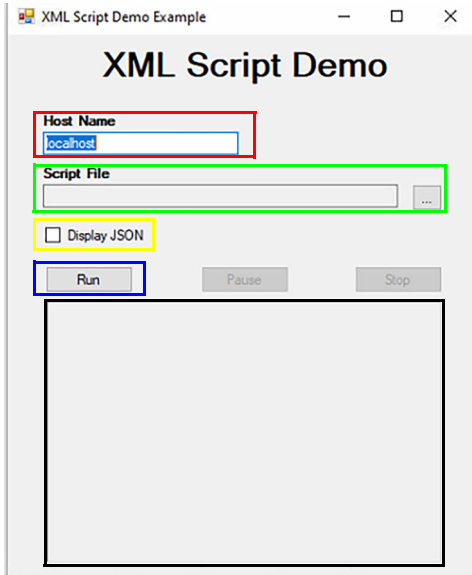
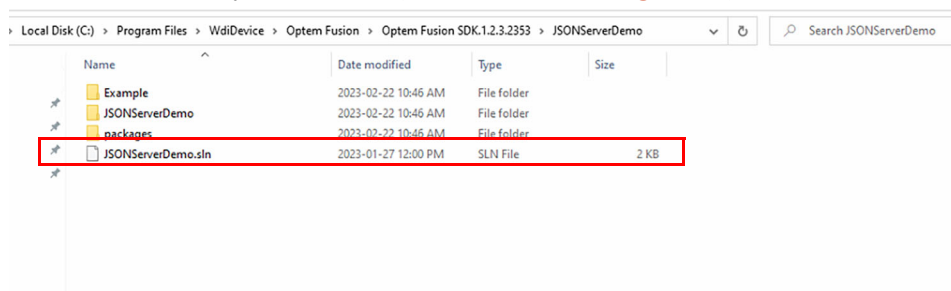

Figure 46 XML Script Demo Window
Figure 47 XML script file folder
- Once the tool is open, input the name of the host machine in the Host Name text box (outlined in red in Figure 46)
- Click the selection button to the right of the Script File text box (outlined in green in Figure 46), to select the XML script file to load (outlined in red in Figure 47).
- Select the **Display JSON** checkbox (outlined in yellow in Figure 46) if you want to show the JSON request that is sent to the server.
- Click **Run** (outlined in blue in Figure 46), to start the XML script. The operations will be output to the log window (outlined in black in Figure 46) as they happen.